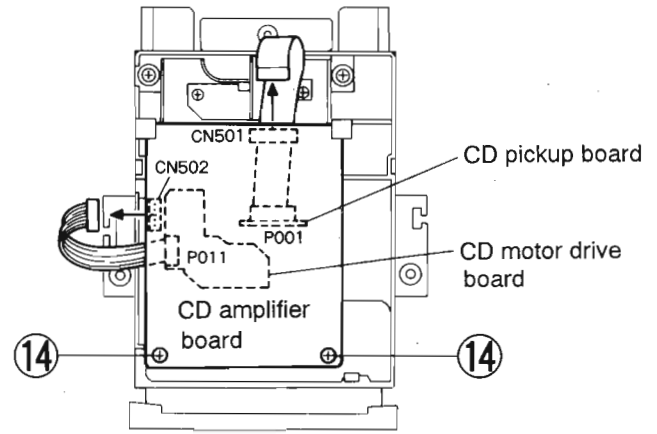

Fig. 5-12
**How to Remove the CD Amplifier P.C. board** (Refer to Fig. 5-12)
4. Remove the two screws (14) retaining the CD amplifier P.C. board.